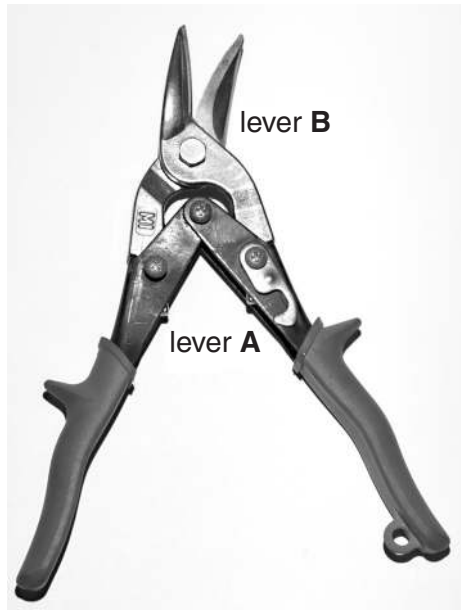

Fig. 4
- 6 A pair of snips used for cutting sheet metal is shown in Fig. 4. The snips use a compound lever action.
(a) Mark the position of the load, effort and fulcrum for lever **A** on Fig. 4. [3]